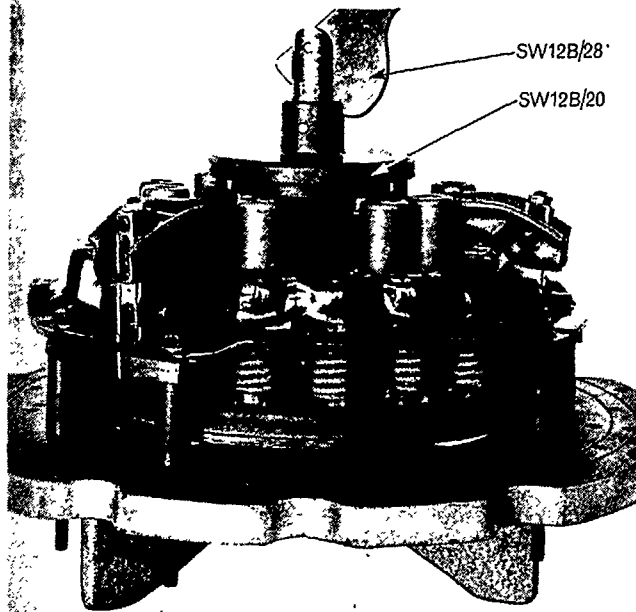

Figure 54
3. Locate tool actuator cam platform extension, SW12B/20, on the threaded pillar of the actuator, SW12B/28, with the flange of the extension against the cam platform of the actuator, Figure 54.